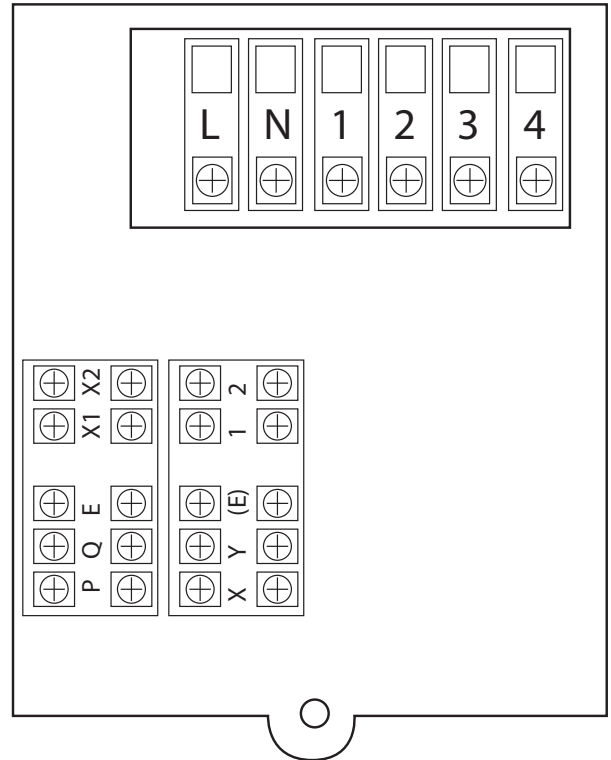

fig. 15
- Make the power connections using the dedicated terminals as indicated in the fig. “fig. 15”)